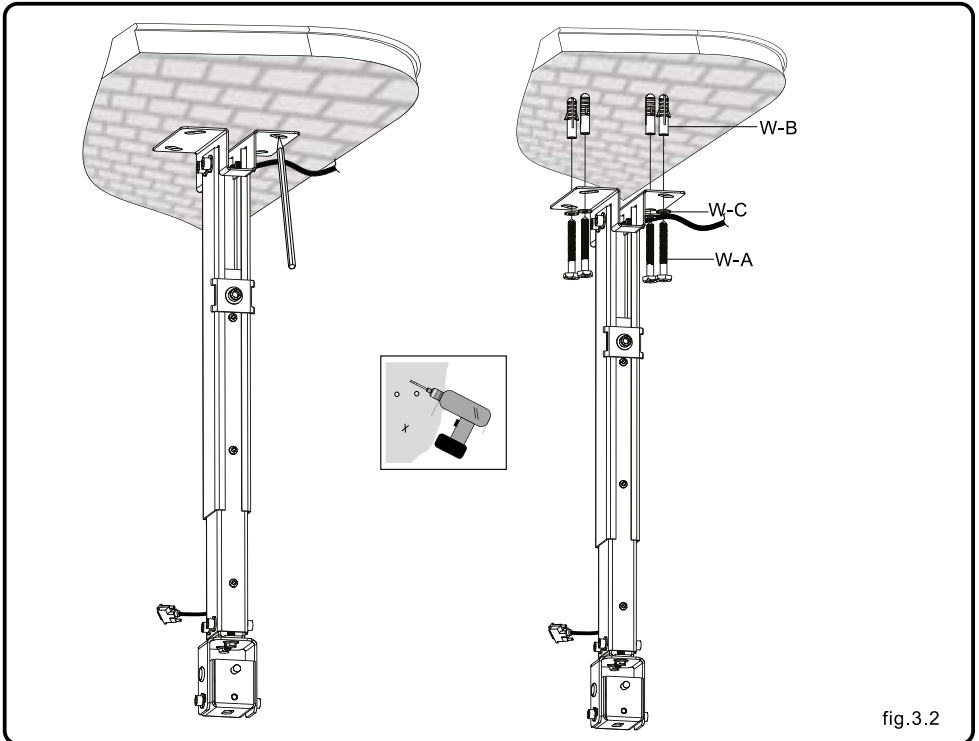

fig.3.2
- Use the ceiling plate as a template to mark four holes locations on the ceiling as shown in fig.3.2.
- Pre-drill these holes with a 10mm masonry bit to at least 60mm in depth. Insert a concrete anchor (W-B) into each of these holes. Attach the ceiling plate to the ceiling using four lag bolts (W-A) and four washers (W-C) as shown in fig.3.2.